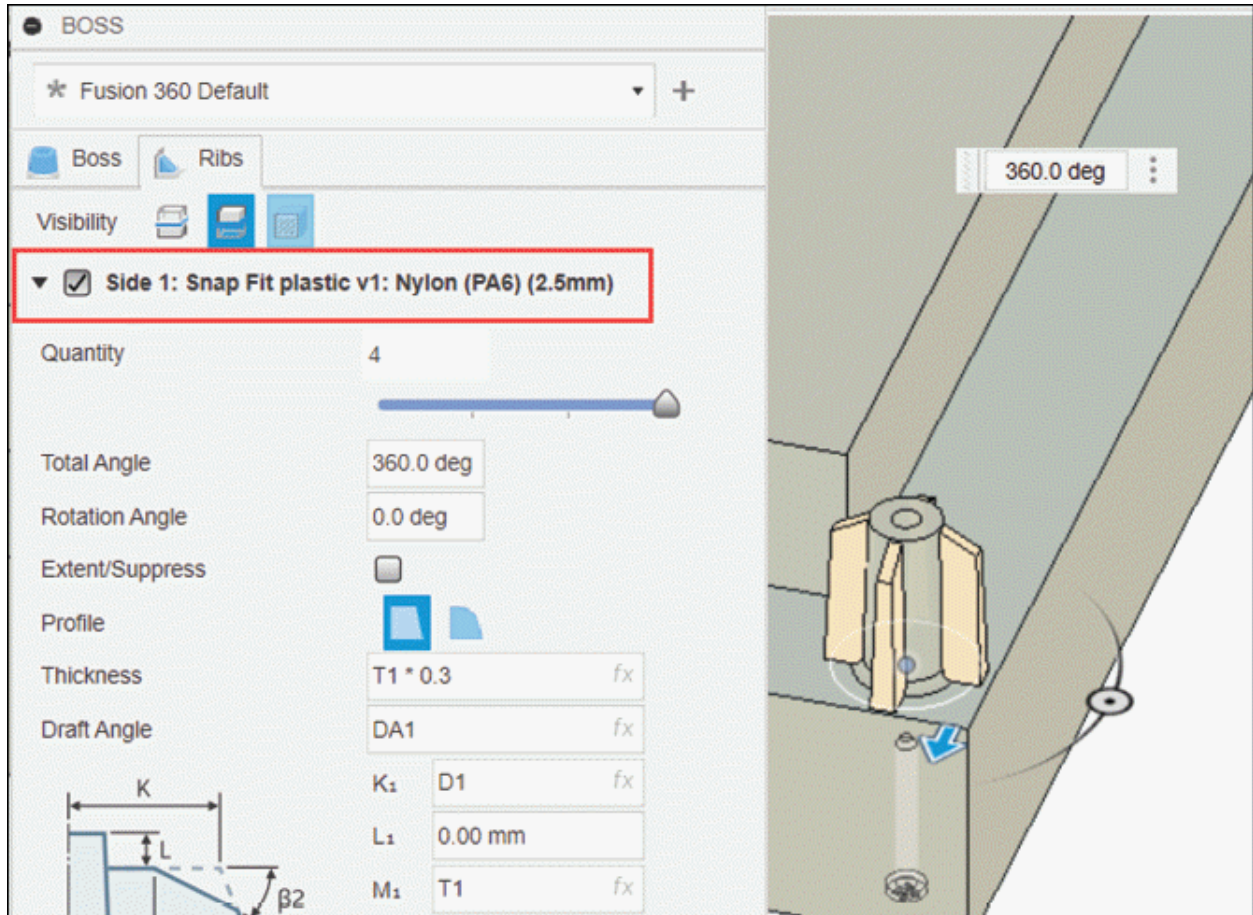

Figure-157. Rib feature for boss
- Select the **Side 1** check box to activate rib feature on side 1 of boss feature; refer to Figure-157. Set the parameters as discussed earlier for the rib.